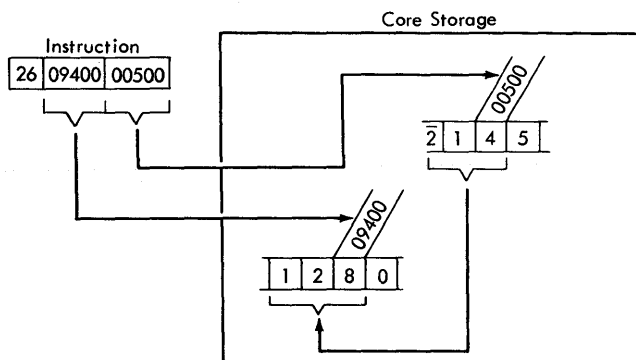

Figure 34. Transmit Field - Data Flow
In Figure 34, the data (214) in the field defined by the Q address (00500) replaces the data (128) in the field defined by the P address (09400). The data at the Q address is not changed.